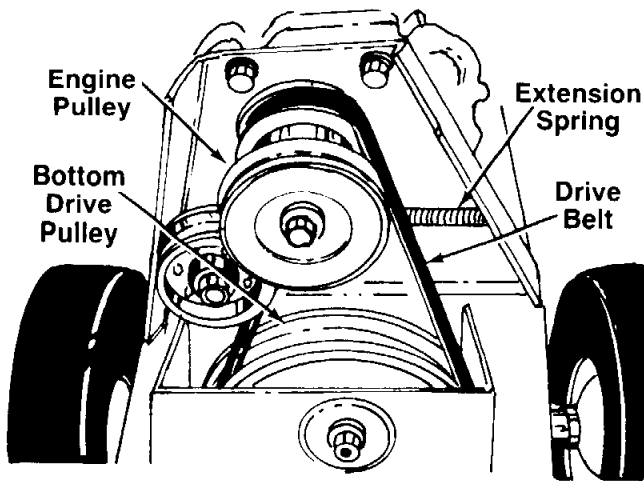

FIGURE 34.
4. To remove the drive belt, disconnect the extension spring at the engine plate. See figure 34.
5. Remove the drive belt from the engine pulley and bottom of drive pulley. See figure 34.